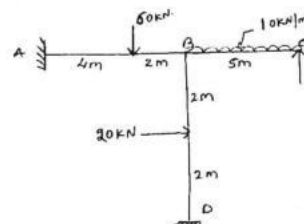

Fig. Q10
- 10 Analyze the portal frame shown in Fig. Q10 by stiffness matrix method. Draw BMD. (16 Marks)